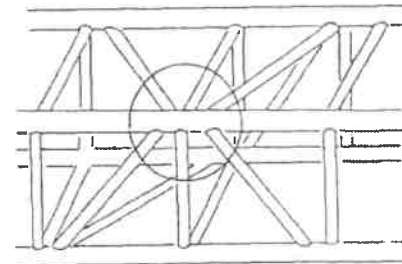

Fig. 2-3
- B: Number of repairable lacings, which are gathered to the chord (marked with O in Fig.2-3) and which cannot be used, of the two sides of the boom section.